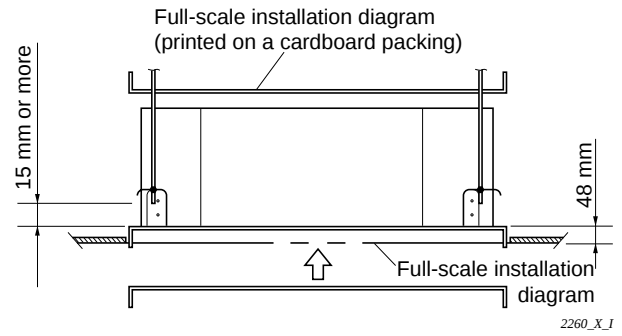

Fig. 2-4
- (1) When placing the unit inside the ceiling, determine the pitch of the suspension bolts using the supplied full-scale installation diagram. (Fig. 2-4)
The size of the opening for the indoor unit can be confirmed by attaching the full-scale installation diagram beneath the unit. (Fig. 2-4)
- (2) The length of suspension bolt must be appropriate for a distance between the bottom of the bolt and the bottom of the ceiling of 15 mm or more as shown in Fig. 2-4.
- (4) Remove the protective cardboard used to protect the fan parts during transport.
- (5) Adjust the distance between the unit and surface of the ceiling. (48 mm) (Fig. 2-4)